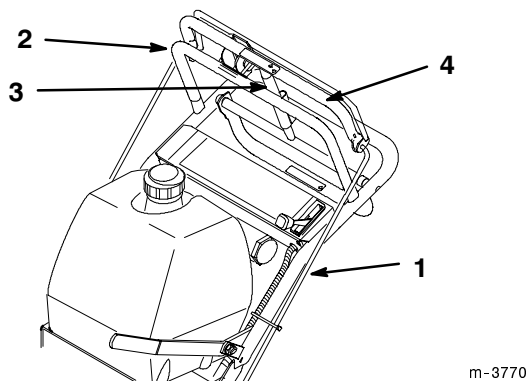

Figure 6
3. Check the gap between upper control bar and fixed bar with wheel drive fully engaged. Gap should be approximately 1 to 1-1/4 in. (25-32 mm) (Fig. 6).